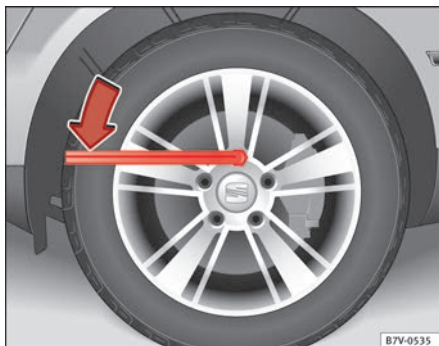

Fig. 181 Changing the wheel: Slacken the wheel bolts.
- Fit the wheel brace as far as it will go over the wheel bolt ⇒ **fig. 181**.